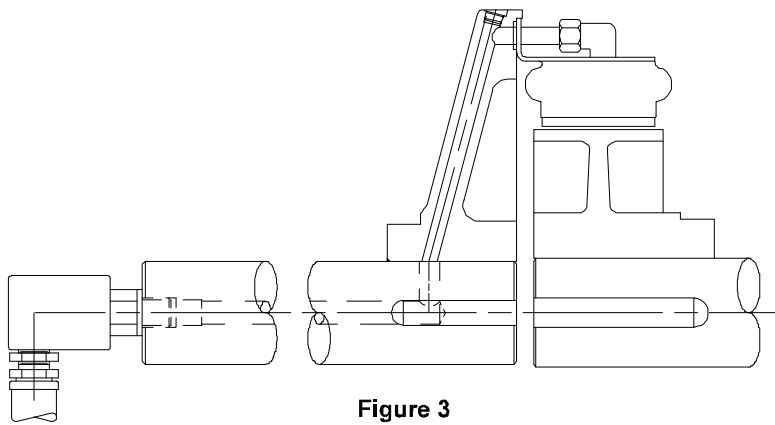

Figure 3
2.1.2 Close-mounted arrangements may be used when shaft-to-shaft clearance is limited as illustrated in Figure 3.